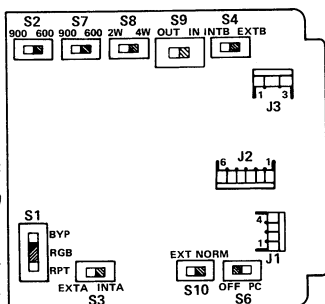

figure 6. Option switch locations on 7001 and 7001A
3.06 The 7001(A) requires no alignment. Before the module is placed into service, however, nine
option switches must be set. Locations of these switches on the module's printed circuit board are shown in figure 6. Table 4 provides a brief explanation of the function and settings of each option switch. Also included in table 4 is a convenient option checklist. This checklist can be filled out (by checking the appropriate box for each switch) either prior to installation to allow prescription optioning of the module or as the module is being optioned to provide a record for future reference. Detailed instructions for optioning the 7001(A) are provided in paragraphs 3.07 through 3.13.